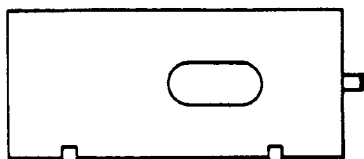

Figure 5
3. Cut two 3" x 7" slots in the front and the back side of disposer to allow torching of the brake-chamber clamp assemblies, Figure 5. Weld one handle to one end and leg brackets to the bottom the disposer.